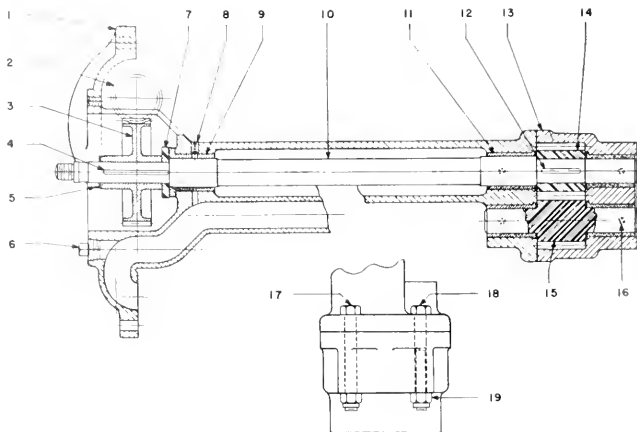

Fig. 2: Main oil pump.
Lubricating oil is supplied by the pump (Fig. 2) to a radial groove, scored in the bearing seat and cap, and enters the bearing through a feed slot in the joint surface of the bearing. Even distribution of oil over the bearing surface is insured by a distributor.
The oil pump, Fig. 2, is of the gear
type with the pump gears submerged in the oil tank. It is driven by a spiral gear (3), Fig. 2, mounted on the top of the pump shaft; which, in turn is driven by a spiral gear (2) keyed to the turbine end of the gear shaft. These spiral gears, which also drive the turbine governor, have a ratio of 2.06 to 1, giving a pump speed of 584 rpm.